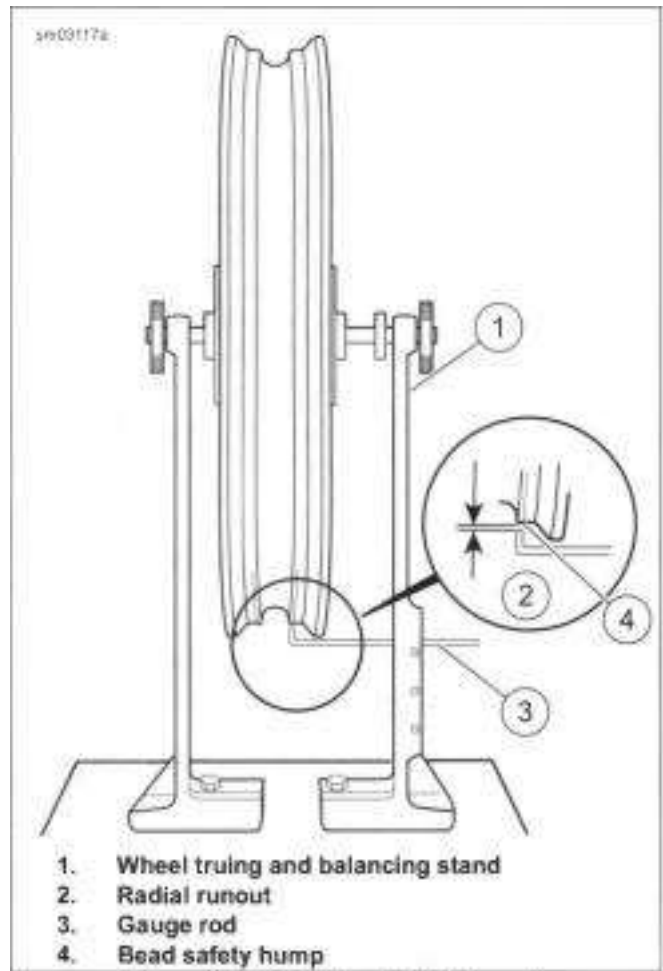

Figure 3-13. Checking Radial Runout
1. See Figure 3-13. Mount wheel in WHEEL TRUING STAND (PART NUMBER: HD-99500-80).